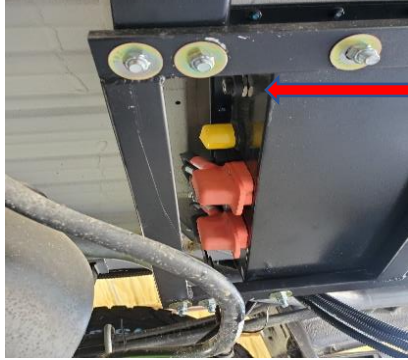

Figure: 2
3. Locate the service key switch on the Volta main battery pack and turn it to the “off” position. The service key switch is located on the Volta main battery pack which is below floor level outside underneath in the rear of the coach. Key will be located in owner’s information bag of the coach. Only in the off position can the key be removed from the pack switch. Picture shown below of key switch located on pack. (See Figure 2 & 3)